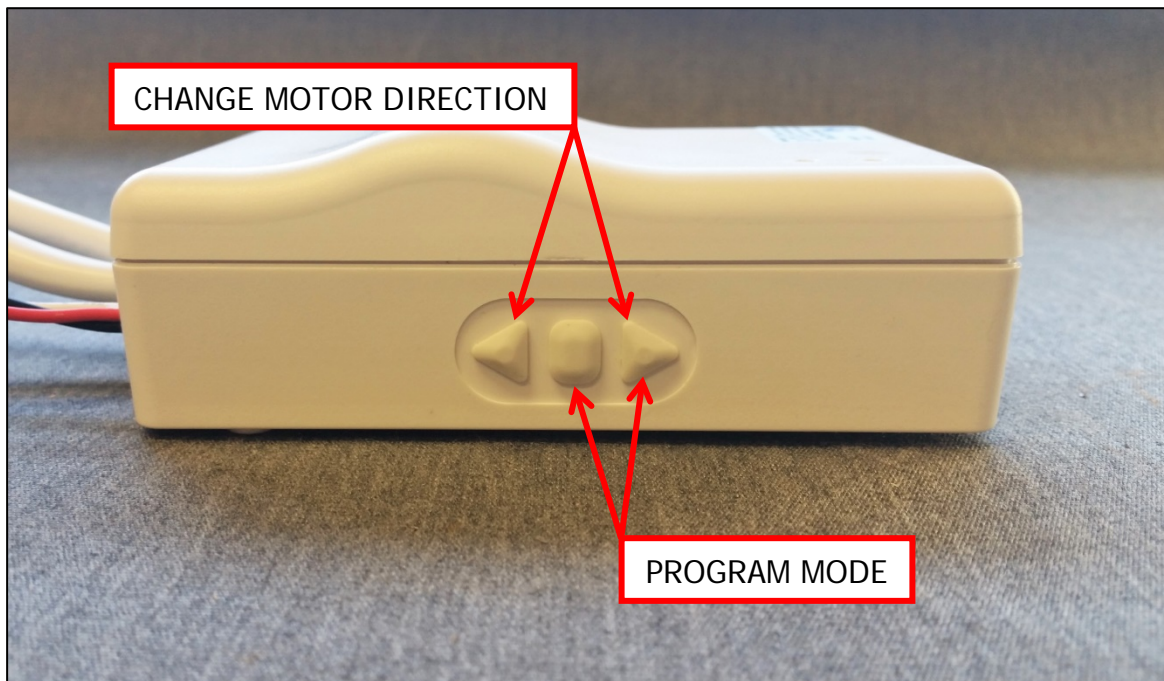

Fig.3
- b. Press and hold the **MIDDLE** and **RIGHT** buttons on the GC274B (Fig 3) for about 5 seconds until the Green LED starts to flash.